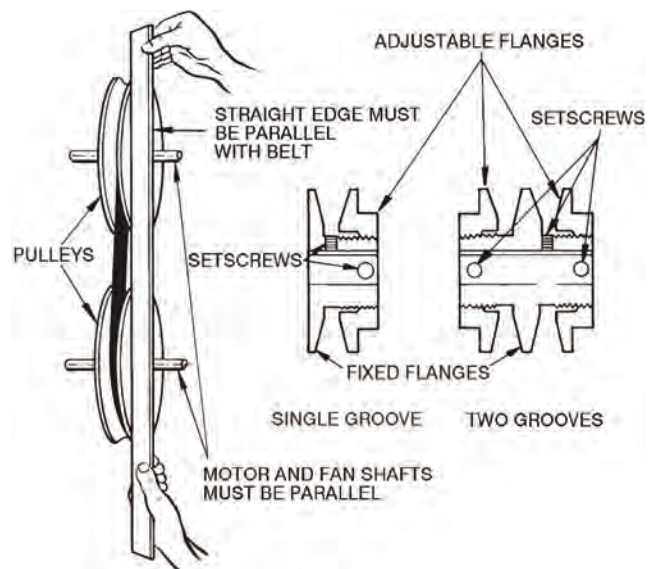

Fig. 27 — Fan Pulley Adjustments
3. Use the methods shown in Fig. 27 to check proper pulley alignment.
- Loosen setscrew in moveable flange of pulley. Screw moveable flange toward fixed flange to increase the fan speed and away from fixed flange to reduce speed. Before tightening setscrew, make certain that setscrew is over nearest flat surface of pulley hub. (See Fig. 27.)